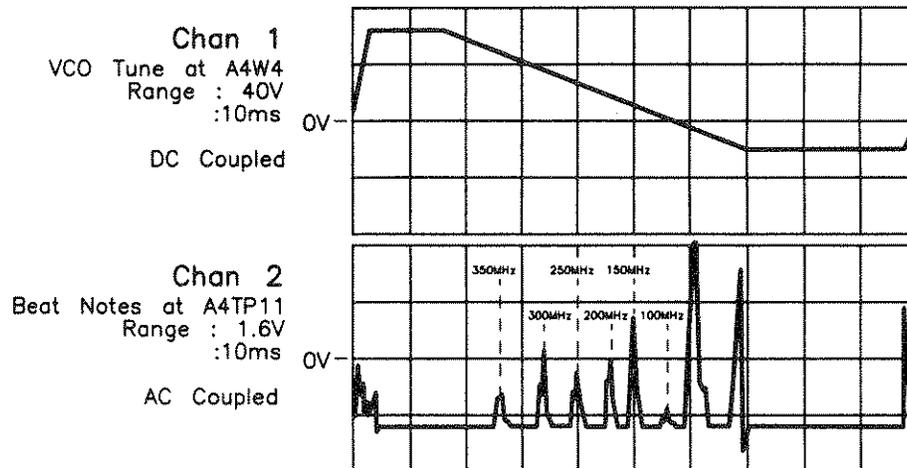

Figure 5-11. Frequency Response at Notch Filters, 650 MHz Setting.
8. The oscilloscope display for nonadjusted Notch Filters is shown in Figure 5-11.
10. Observe the oscilloscope Chan 2 display (beat notes) and refer to Figure 5-11. Adjust A4C85 (350 MHz Notch Filter) until you see the 350 MHz beat note change on the display, then adjust the beat note for minimum amplitude.